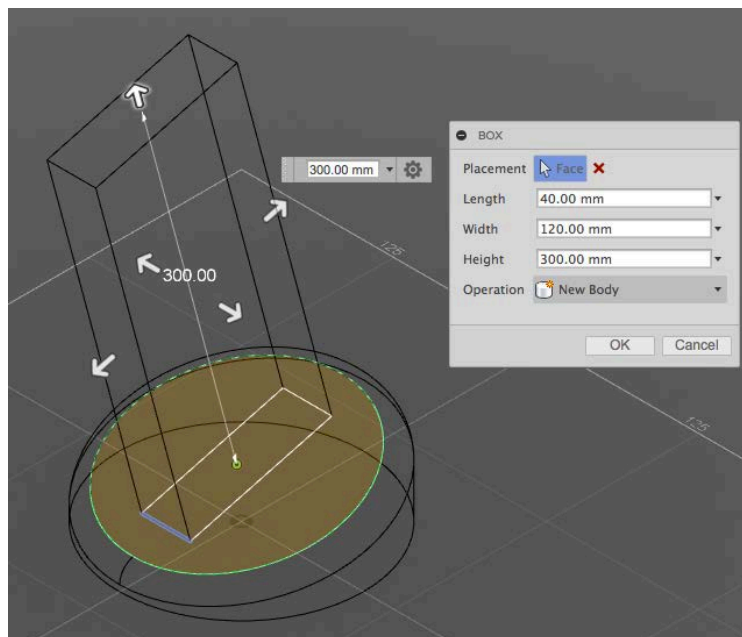

Fig. L04
- Continue defining the sketch by pulling arrows so that you end up with a box Length 40mm, Width 120mm, Height 300mm (Fig.L04). \*\*Note: doing this will keep the box centered within the base's top face.